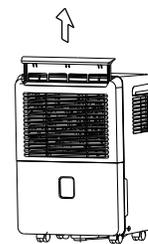
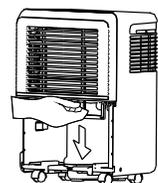

Fig.11a
Fig.11b
- Remove the filter from the top of the unit (See.Fig.11a), or to remove the filter,remove Bucket then pull filter downwards (See.Fig.11b).